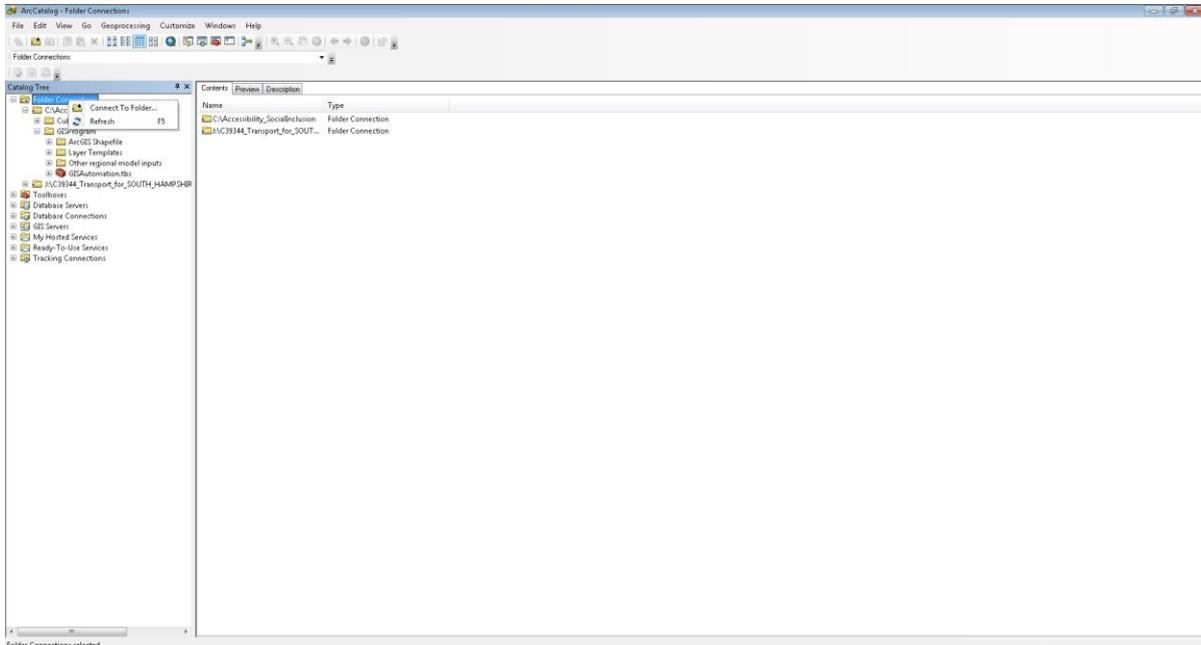

Figure 3.2 Adding a New Folder Connection
- 2) The folder that contains both the CUBE catalog and the ArcGIS script needs to be added to the folder connections within the ArcGIS Catalog. This is done by right clicking on Folder Connections within the Catalog Tree on the left-hand column, and Connect to Folder, as shown below in Figure 3.2.